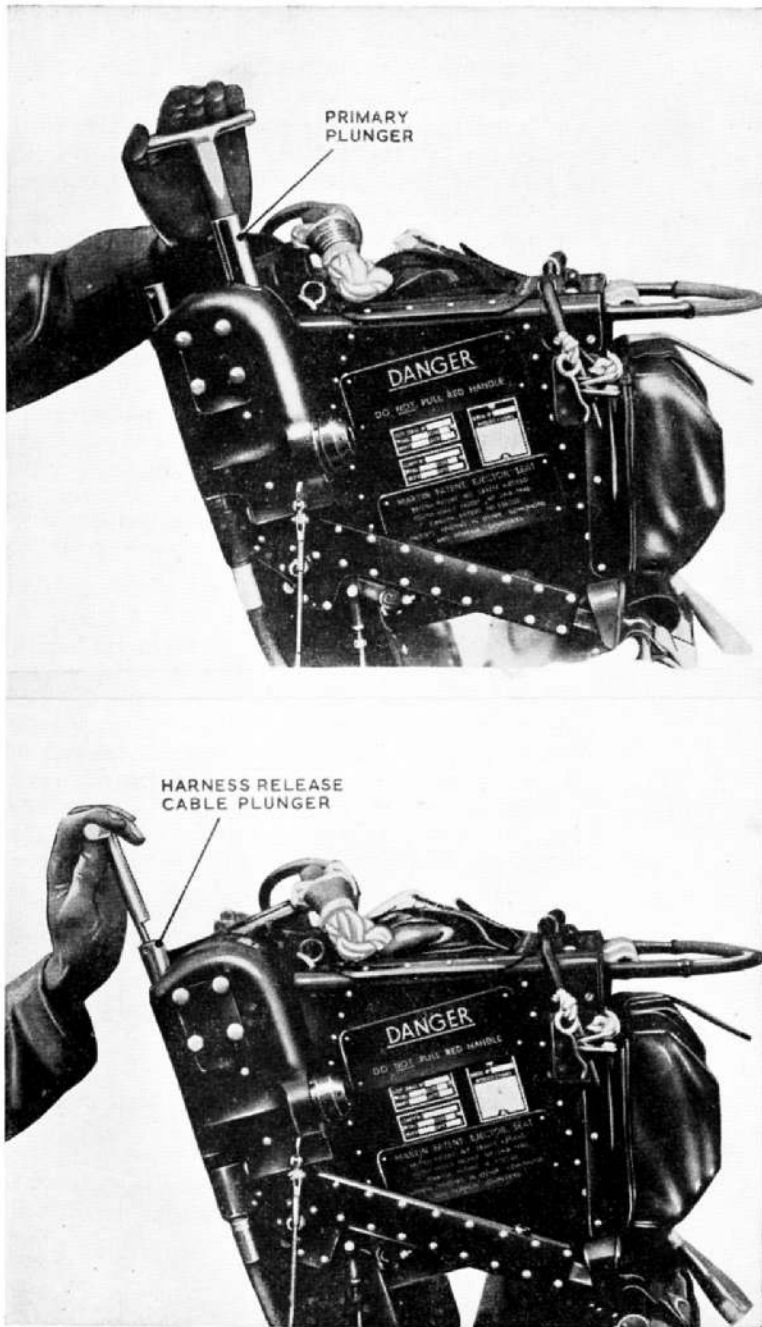

Fig. 15. Re-setting the barostatic time-release mechanism
- (2) Assemble the safety harness release cable conduit and starboard thigh strap.
- (3) Turn the operating plunger until the word Top is at the bottom, insert the scar from the top, depress the plunger until it engages and then rotate it a half-turn.
- (4) Close the scissor shackle over the drogue shackle, and slide the locking plunger to the left until it rests against the scissor shackle.
- (5) Place the rack plunger tool over the primary plunger (fig. 15) and press down until it engages.
- (6) Place the harness release plunger tool over the plunger, ensuring that the cut-away portion of the tool is facing forward, and press down until it engages. Whilst doing so, place the other hand on the safety harness quick-release lever and assist it round to the locked position.